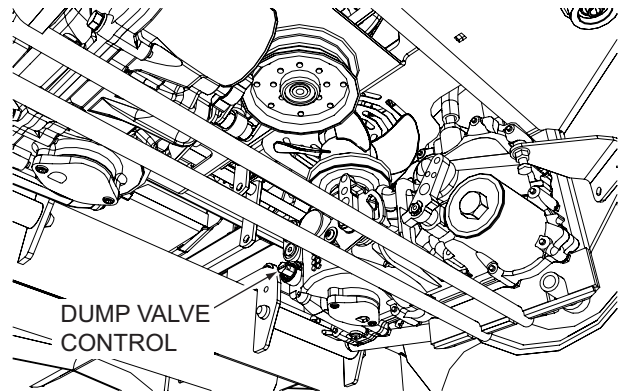

Figure 4-2. Dump Valve Control
10. **Dump Valve Control Levers (Figure 4-2).** Located on the hydraulic axles, used to "free-wheel" the mower. Rotating the levers clockwise until they stop allows the unit to move under hydraulic power. Rotating the levers counter-clockwise allows the mower to be moved by hand (free-wheeling).
1. Be sure the fuel shutoff valve, located behind the operator's seat, is fully open. (See Figure 4.2.)